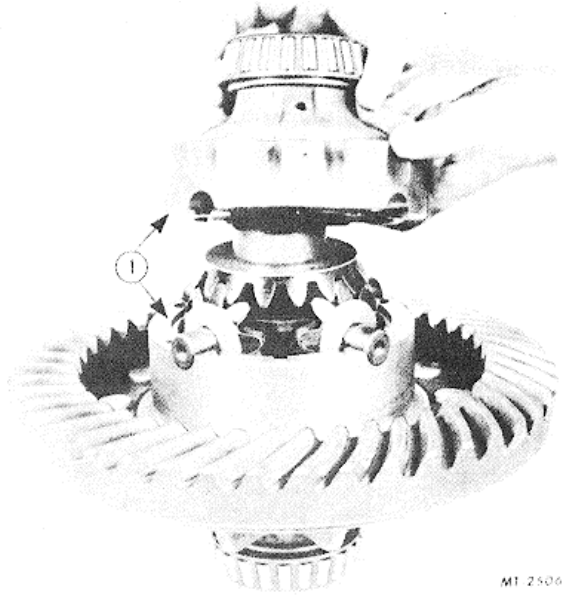

Fig. 17. Separating Diff Case Halves
3. Remove self-locking nuts from diff case bolts and separate the diff case halves (Fig. 17).